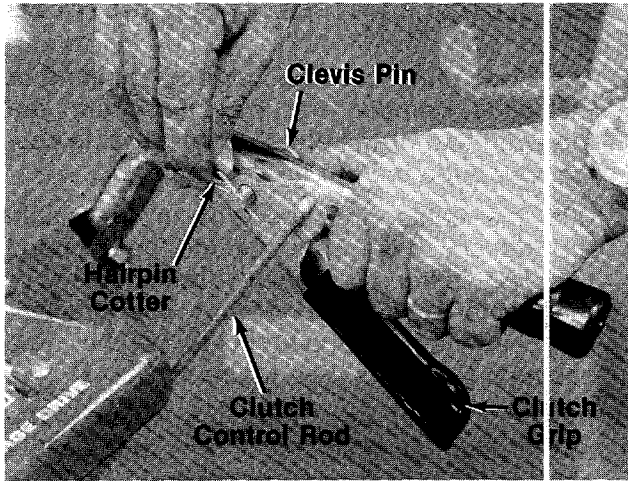
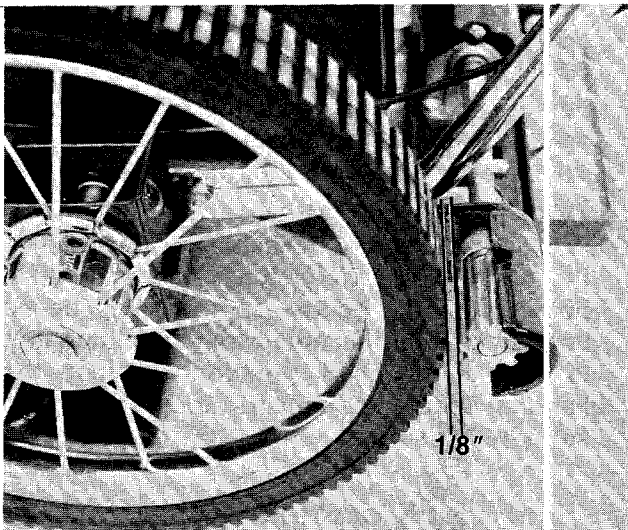

FIGURE 7.
FIGURE 8.
1. Remove hairpin cotter and clevis pin which secure clutch grip to the right hand handle. See figure 7. Remove clutch grip.
- Hook other end of clutch control rod into clutch grip. Secure clutch grip to handle with clevis pin and hairpin cotter. See figure 7.
- With the drive clutch grip released as shown in figure 7, there should be a minimum clearance of 1/8" between the drive pinions and wheels. See figure 8. With the clutch engaged (clutch grip squeezed), the pinions should engage solidly into the tread of the wheels.
Clearance between drive pinion and drive wheel should be approximately 1/8" when drive clutch grip is released. Refer to figure 8. Excess clearance will cause premature belt wear. Adjust cable as necessary.